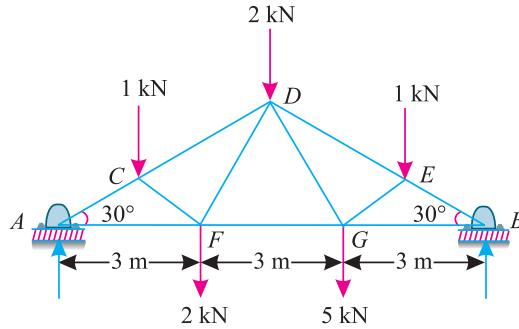

Fig. 12.26.
**Example 12.11.** A truss of 9 m span is loaded as shown in Fig. 12.26.